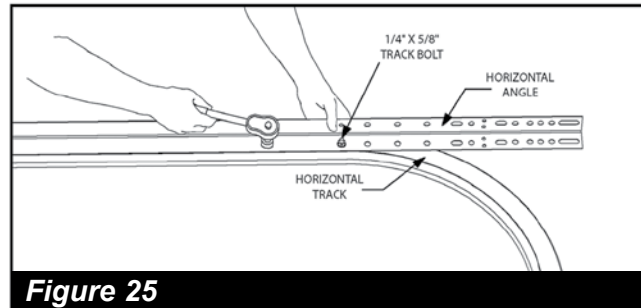
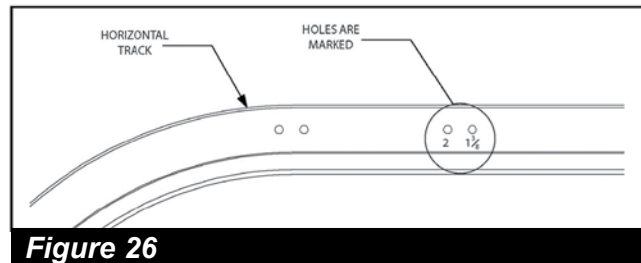

Figure 25
Figure 26
**HORIZONTAL TRACK** To fasten the horizontal angle to the horizontal track (Fig. 25), first determine whether the door is 1 3/8" or 2" thick. Then note the proper set of holes to use as stamped in the horizontal track. (Fig. 26)